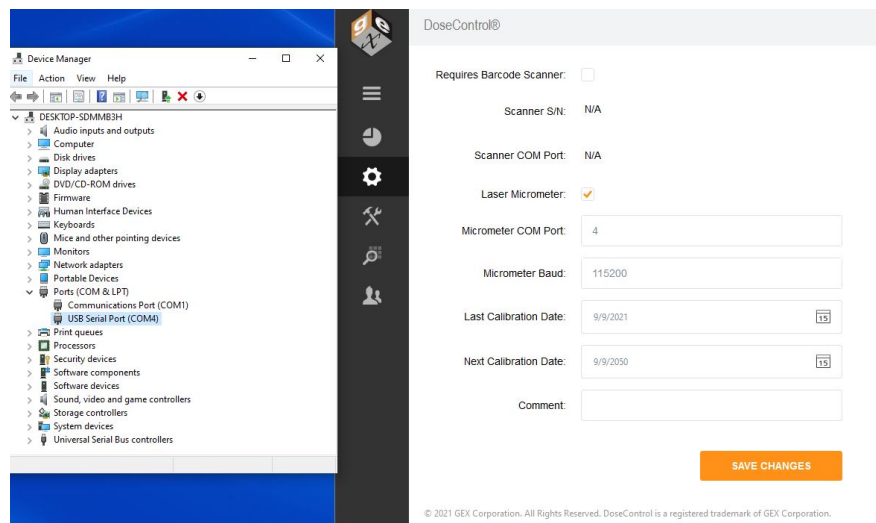

Figure 7: Enter the laser micrometer COM port into the Reader configuration in DoseControl
- i. Enter the correct COM port for the Laser Micrometer into the Reader configuration. The COM port number can be found in the PC device manager. See *Figure 7*.